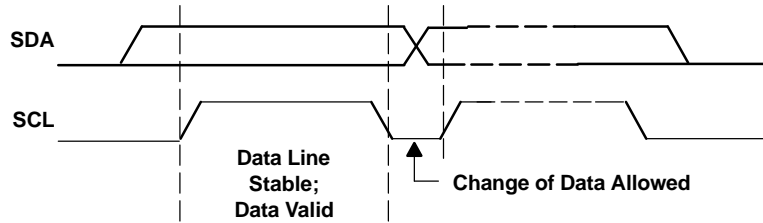
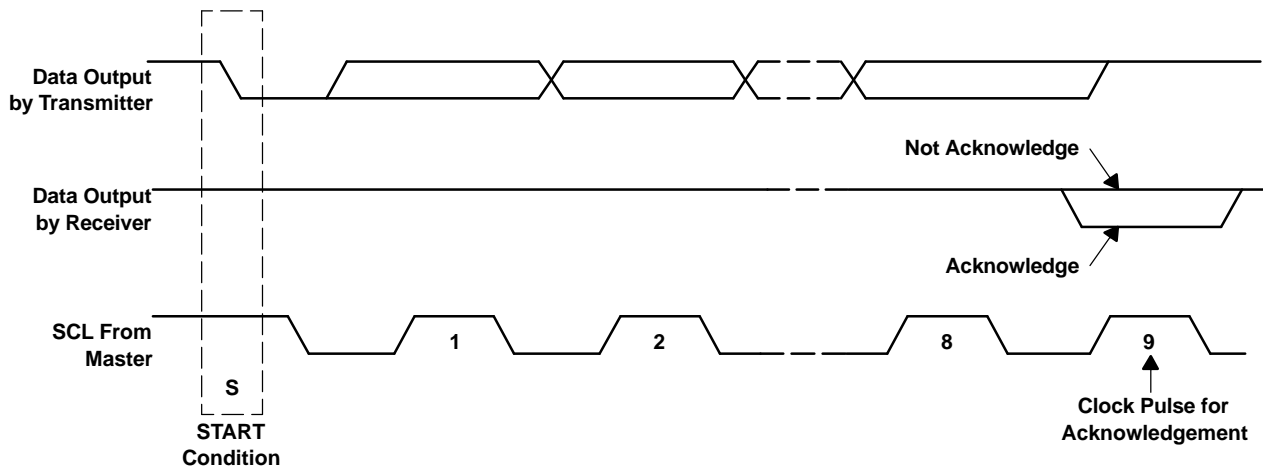

Figure 42. Bit Transfer on the I²C Bus
Figure 43. Acknowledge on the I²C Bus
- The master then generates the SCL pulses, and transmits the 7-bit address and the *read/write direction bit* R/W on the SDA line. During all transmissions, the master ensures that data is *valid*. A *valid data condition* requires the SDA line to be stable during the entire high period of the clock pulse (see Figure 42). All devices recognize the address sent by the master and compare it to their internal fixed addresses. Only the slave device with a matching address generates an *acknowledge* (see Figure 43) by pulling the SDA line low during the entire high period of the ninth SCL cycle. Upon detecting this acknowledge, the master knows that communication link with a slave has been established.